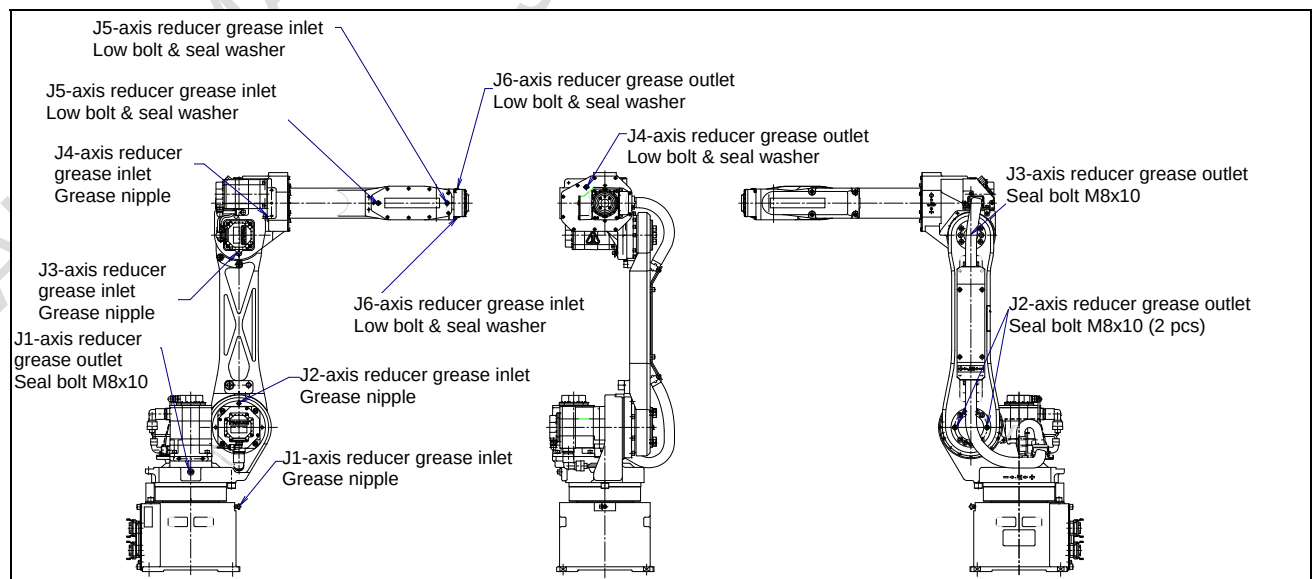

Fig. 3.1 (a) Greasing points
- See Fig. 3.1(a) and Table 3.1 (a) for greasing points and the method.
Follow the procedure stated below to replace the grease in the J1, J2, and J3-axis reducers and the J4 and J5-axis gearboxes at the intervals based on every 3 years or 11520 hours, whichever comes first. See Fig. 3.1(a) for greasing points.
- 1) Remove the seal bolts from the J1, J2, and J3-axis grease outlets shown in Fig. 3.1(a). Also remove the flat-bolts and sealing washers from the J4 and J5-axis grease outlets.